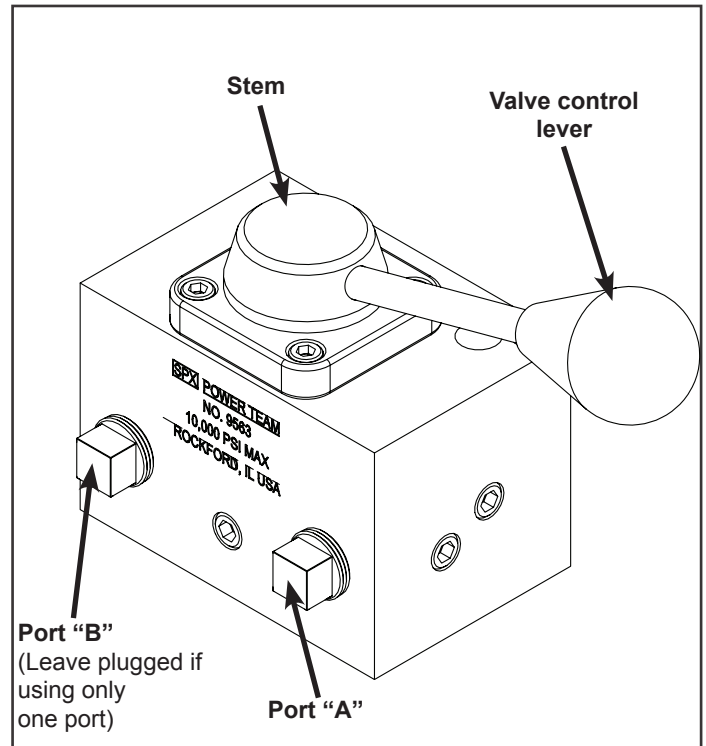

Figure 5
- If this valve is to be used as a 3-way with single-acting cylinder(s), one port must remain plugged (use steel plug). (Figure 5)